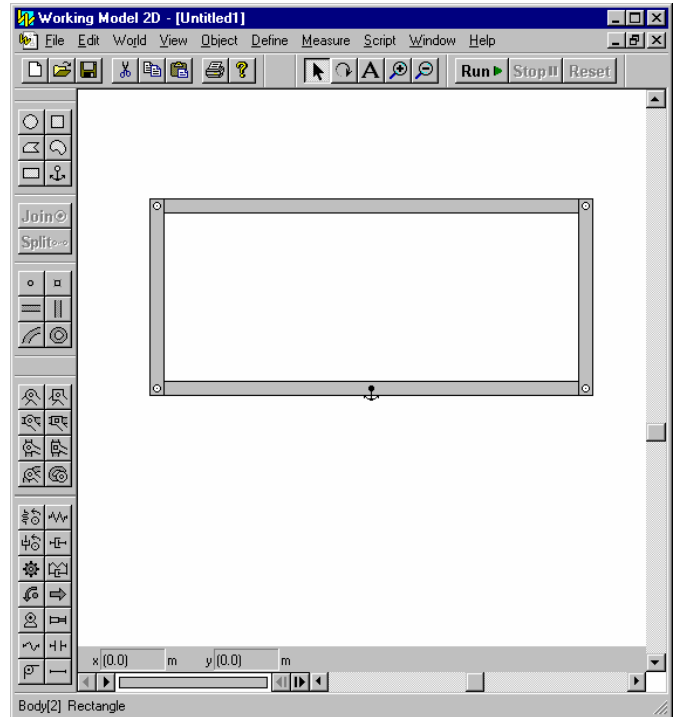

Figure 8. Building a fourbar linkage, Steps 6-7.
6. Duplicate the last link and move it to the opposite end of the structure, Figure 8.
7. Create Pin Joints between the links, Figure 8, by selecting the pin joint tool and clicking in middle of the regions where the rectangles overlap (a small x will appear when your mouse is in the middle).
8. Anchor/Ground the bottom link, Figure 8.